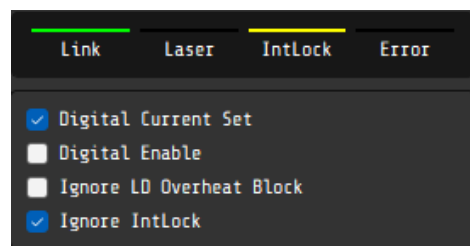

Figure 11. MAIMAN BENCHSOFT software setup for TTL modulation (without INTERLOCK button)
3. After that, in Device state flags panel you should activate two buttons: "Digital Current Set" and "Ignore IntLock" (if you don't use INTERLOCK button) as it shown in Figure 11.